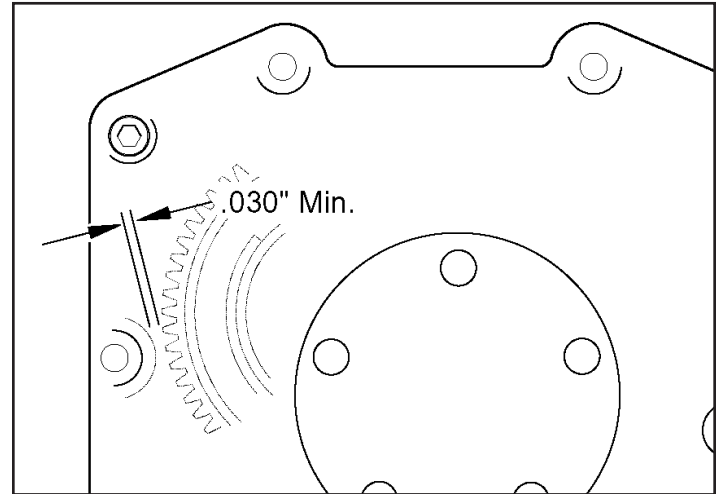

Figure 3
29. Press a small piece of clay or kneadable putty on cam cover mounting boss as shown. See **Figure 3**. Carefully hold cover and cover gasket in position against crankcase. Install mounting bolts (4) near corners of cover finger tight. Push or tap cam cover towards front of engine.